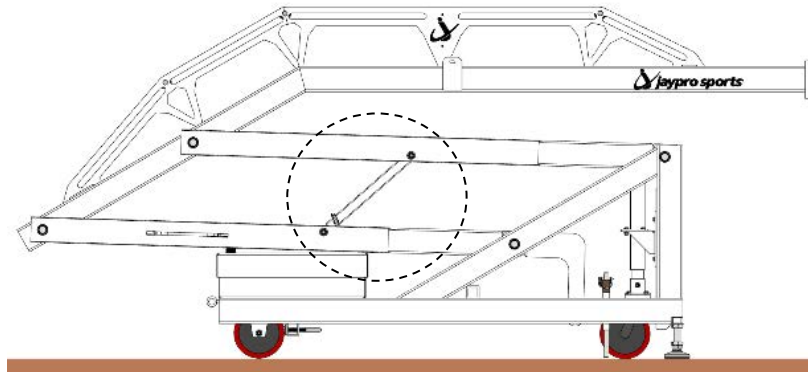

Figure 8-1: Height adjuster mechanism
1. **ONLY IF BACKBOARD HAS BEEN INSTALLED**, remove quick-release pin from height adjuster mechanism (Figure 8-1).
4. **ONLY IF BACKBOARD IS INSTALLED**, remove the quick-release pin from the height adjuster mechanism (Figure 8-1).